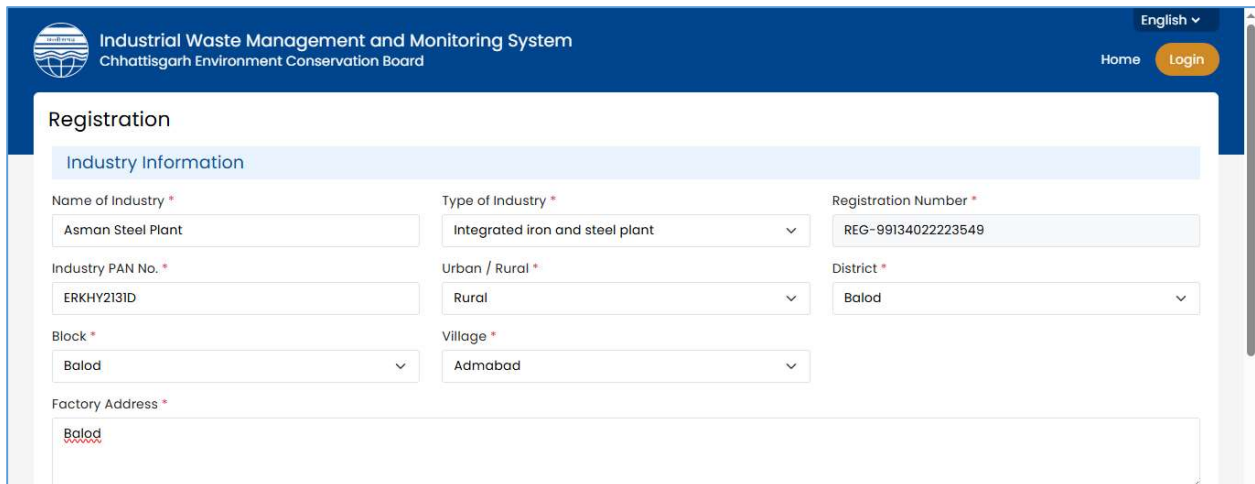

Figure 2-3 Registration Form Screen (1)
- After clicking the **Register** button, navigate to **Registration form** as shown in the **Fig 2-3** below.
Refer **Fig 2-3**, provide the **Industry Information**.